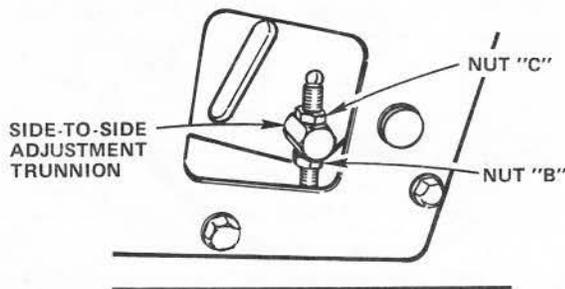

FIGURE 16
3. If distance "A" needs to be changed, snap out Access Hole Cover on L.H. side above Footrest. Use 9/16" wrench on Nuts "B" and "C" at Side-To-Side Adjustment Trunnion (Fig. 16).